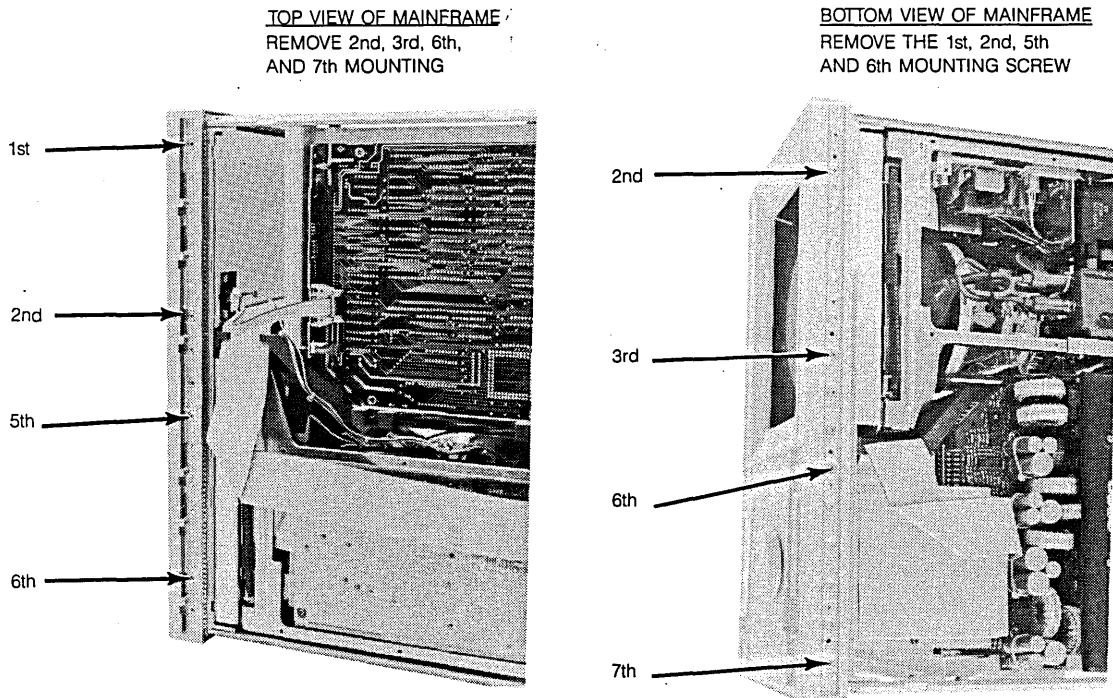

Figure 6-40. Front Panel Mounting Screws Identification
- c. Remove the four front panel assembly mounting screws from top casting as shown in figure 6-40. Use a Torx T-15 driver.
- d. With a Torx T-15 driver, remove the four bottom front panel mounting screws (see figure 6-40).